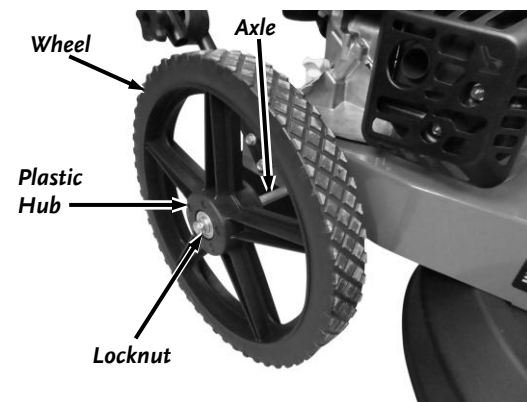

Figure 22
2. Remove the Locknut using a 5/8" Wrench (**Figure 22**).